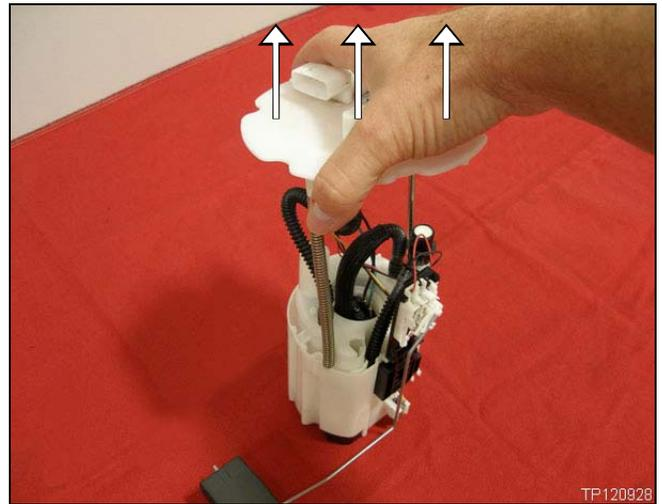

Figure 3
- c. Raise the top of the fuel pump module until the rods pull out completely (see Figure 3).